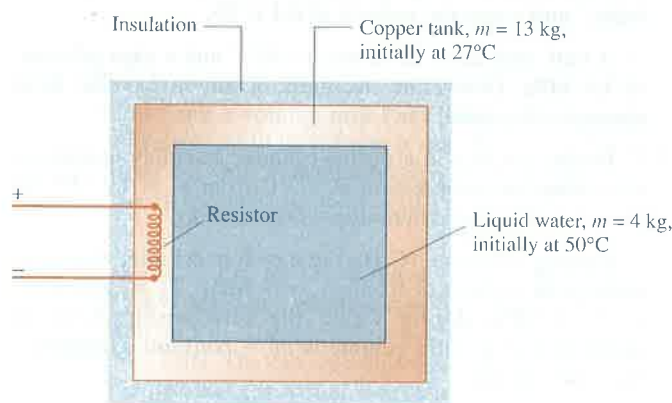

Fig. P3.90
3.90 As shown in Fig. P3.90, a system consists of a copper tank whose mass is 13 kg , 4 kg of liquid water, and an electrical resistor of negligible mass. The system is insulated on its outer surface. Initially, the temperature of the copper is 27°C and the temperature of the water is 50°C . The electrical resistor transfers 100 kJ of energy to the system. Eventually the system comes to equilibrium. Determine the final equilibrium temperature, in $^\circ\text{C}$.